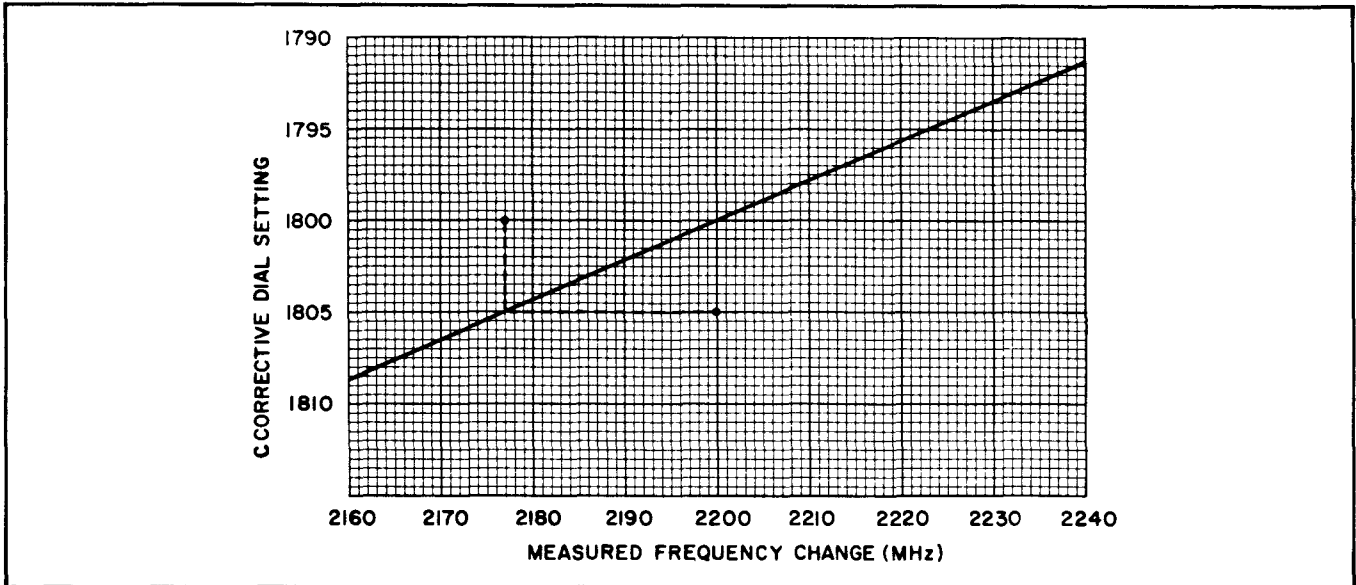

Figure 5-6. Frequency Tracking
- c. Refer to graph, Figure 5-6. The horizontal axis represents the measured frequency change from step b, the vertical axis indicates the dial corrective setting. For example, if the difference between dial settings (step b) is 2177 MHz, the corrective setting for the dial as found on the graph is 1805 MHz. To make the corrective setting, set the frequency dial to 1800 MHz, loosen the two setscrews that clamp the dial plunger to the rack, shift the dial to 1805 MHz, and then tighten the two setscrews.